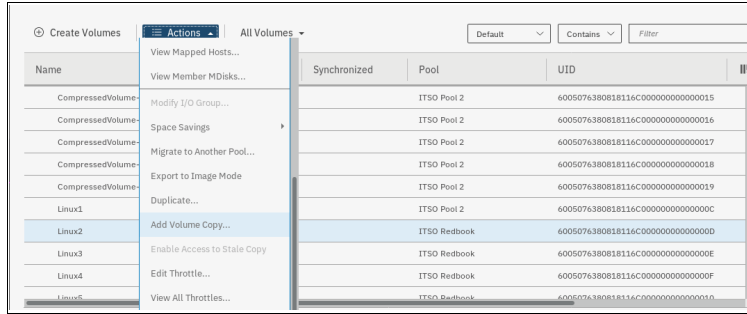

Figure 8-49 Add Volume Copy option
1. Select the volume and click **Actions** → **Add Volume Copy**, as shown in Figure 8-49.